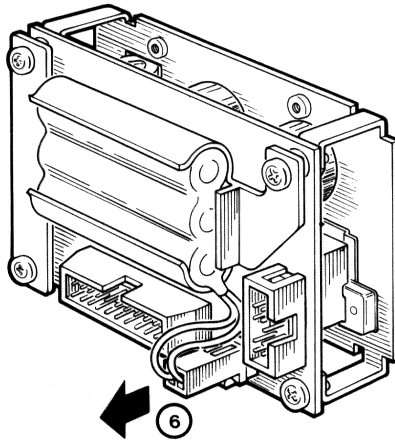

Figure 6-30 Disconnect the Battery Backup Unit
6. Disconnect the battery backup unit (BBU) from the CPU patch panel insert. (Figure 6-30)